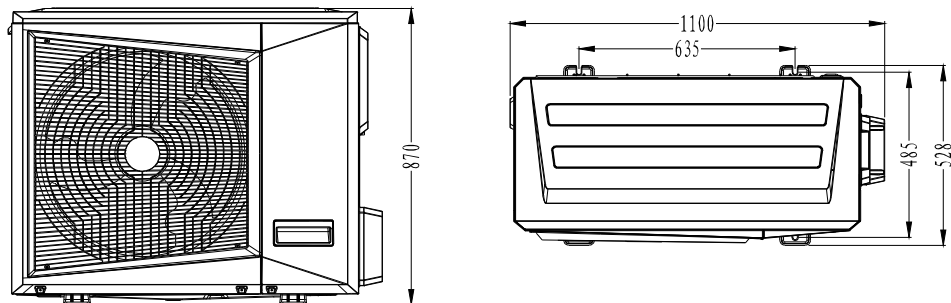

Fig. 3-1 Dimension of Outdoor Unit
1) Fig. 3-1 is applicable for models of 12.5kW(200V-220V), 14kW, 16kW.